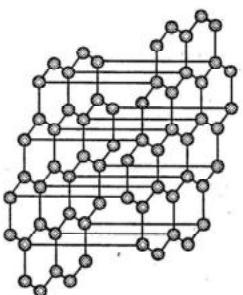

Fig. 6.3.1 : Molecular model of graphite
- These varied uses of graphite are been mainly due to its structure as shown in Fig. 6.3.1.